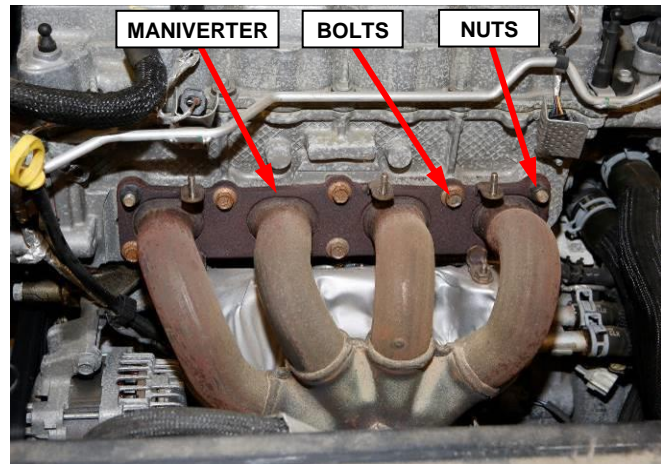

Figure 12 – Manivertter to Engine
19. Remove the fasteners, six bolts and two nuts, securing the manivertter to the engine cylinder head (Figure 12).